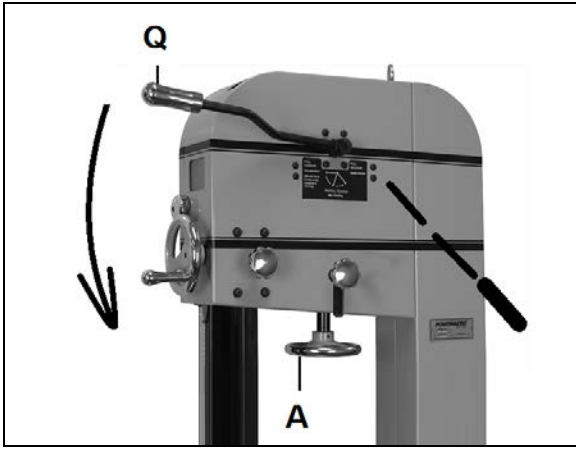

Fig 33
Release the blade tension by operating the quick blade tension lever (Q, Fig 33) and by turning the blade tension handwheel (A).